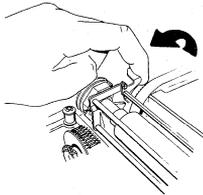

Fig. 49—Pressure Roller Release Lever
- 9.01 Pull pressure roller release lever up and to the front (Fig. 49).